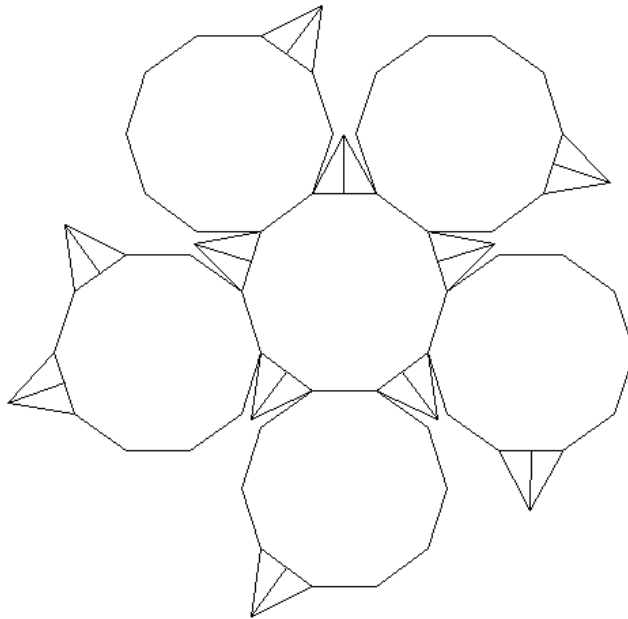

Figure 9.19
5. Make 20 equilateral triangles with the same edge size as the decagons. Attach these triangles to the remaining sides of the original decagon. When these decagons are brought together, another five triangles can be installed in the grooves between them. This is half the assembly. The net provided in **Figure 9.19** is one half of the complete construction, and its resemblance to the dodecahedron is pronounced.